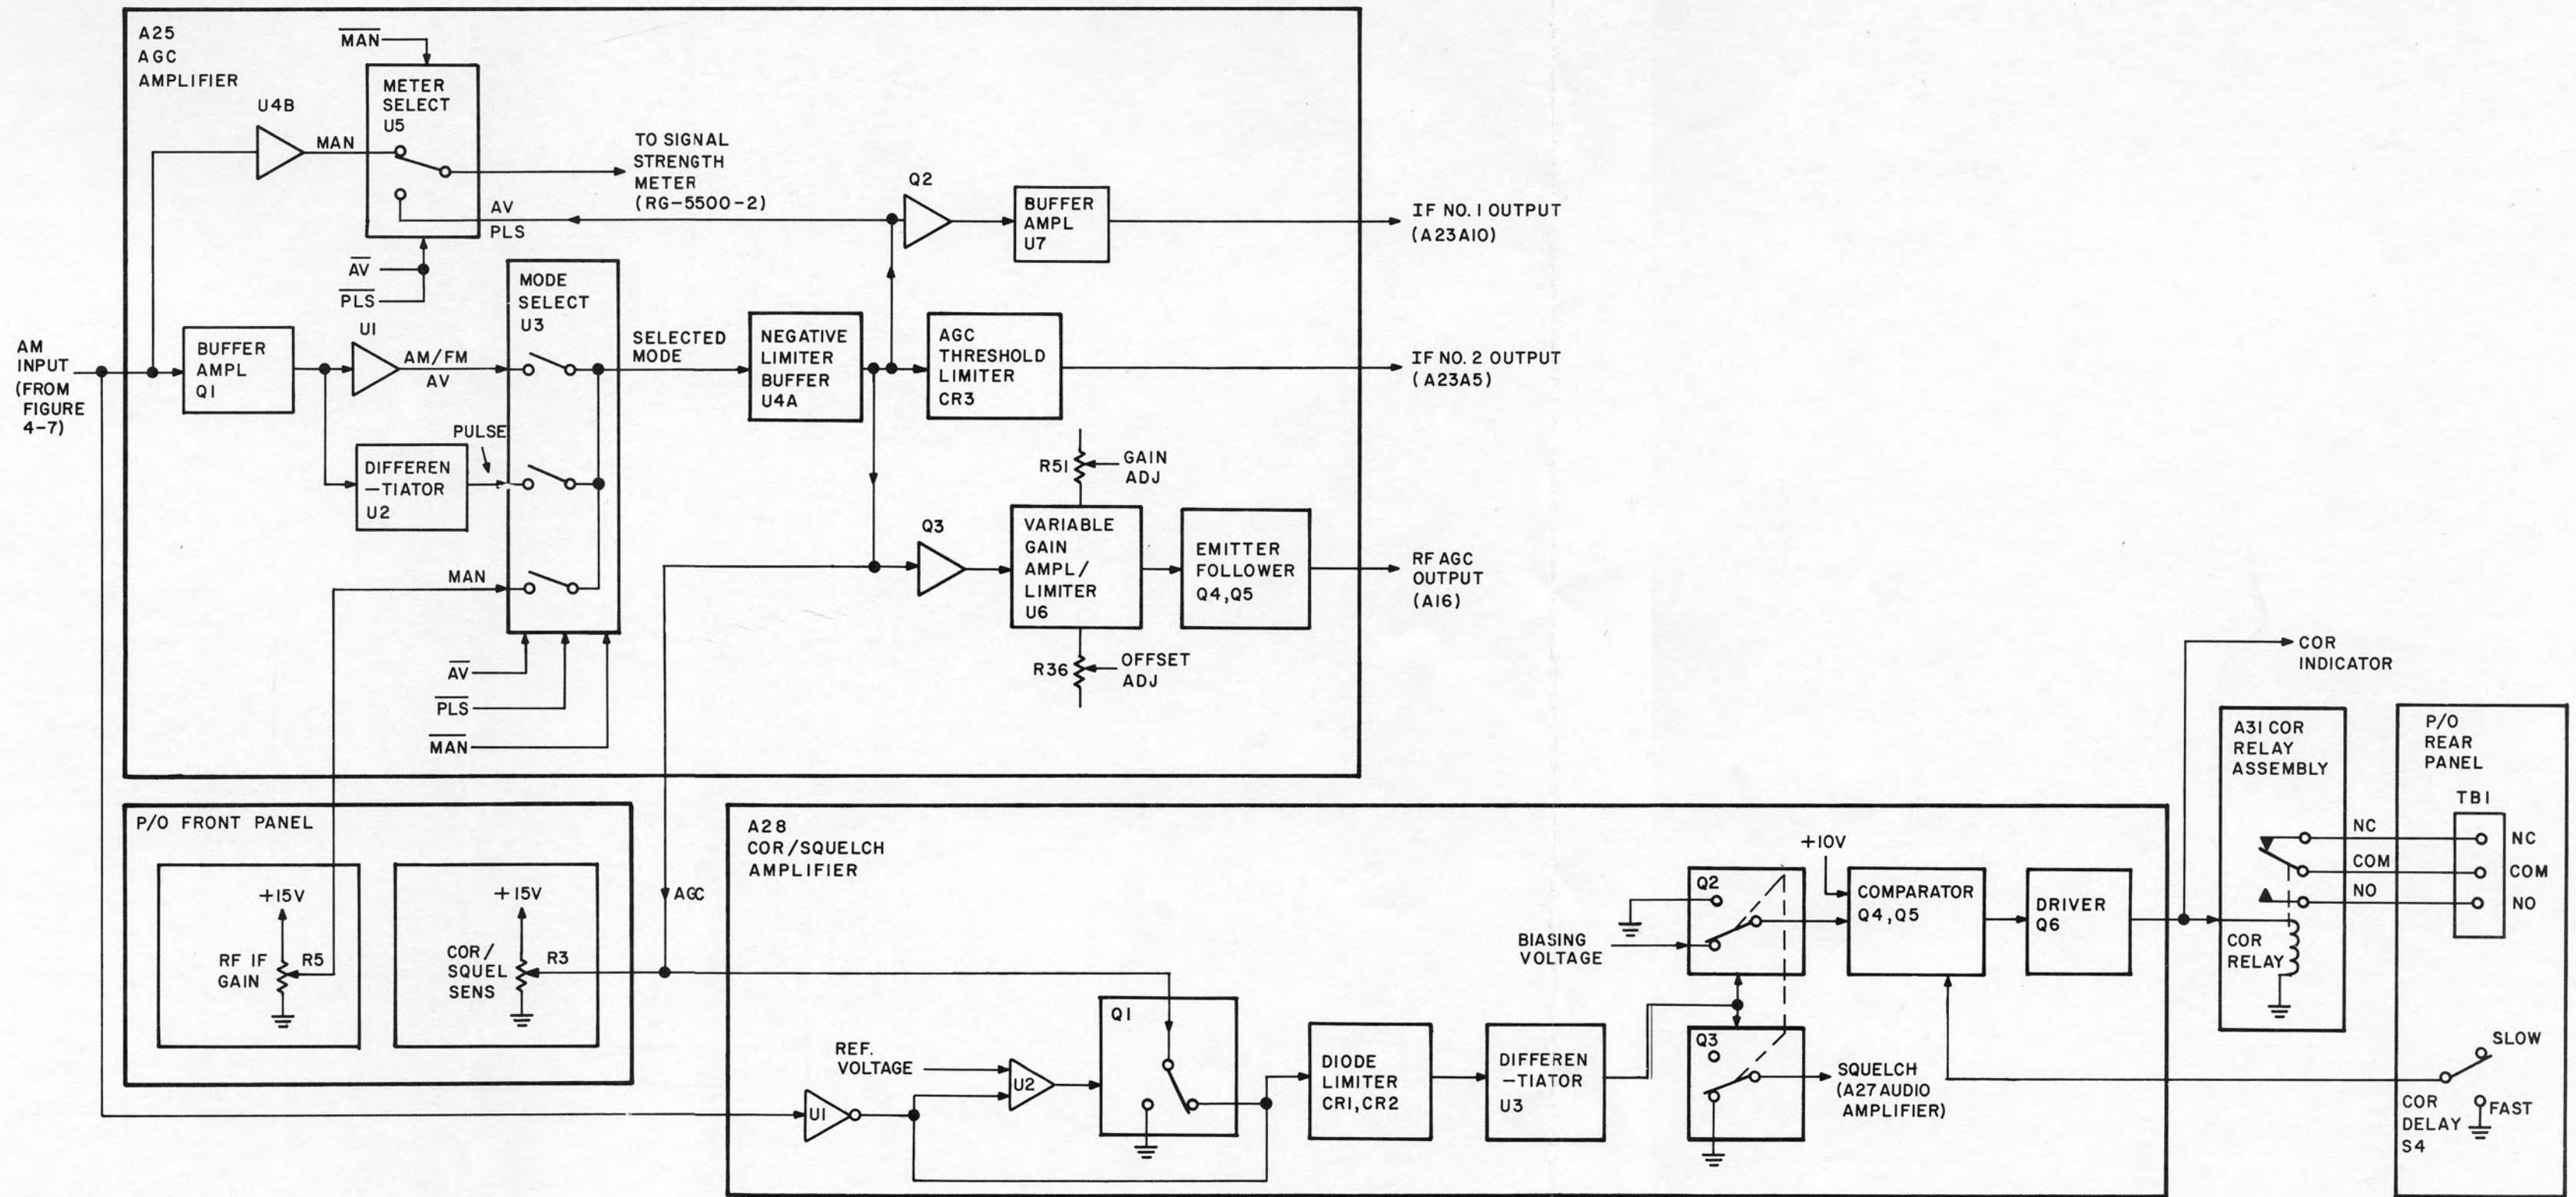

Figure 4-6. AGC Section Functional Block Diagram
d. AGC Section. The AGC section (figure 4-6) is composed of A25 AGC amplifier A28 COR/squelch amplifier, and A31 carrier operated relay.